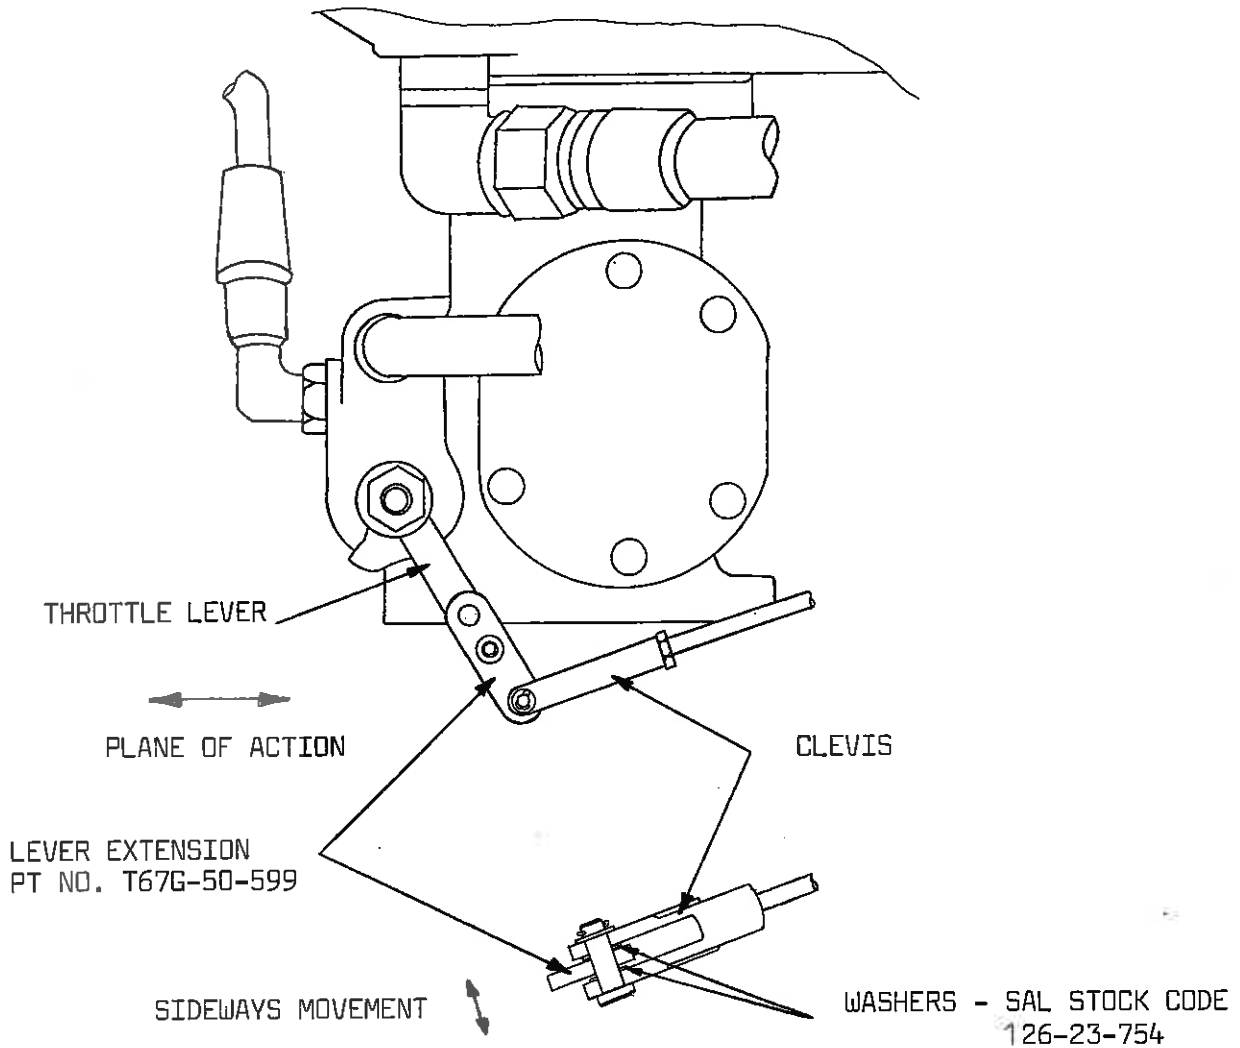

FIG 1
2. Measure the play in the throttle extension lever and mixture extension lever clevis joints, in the plane of action, ref Fig. 1. If the maximum play is up to 0.48mm, (.019 in) then no further action need be taken.
3. Inspect lever extensions and washers in the area of the clevis joint for excessive wear in the sideways direction, ref. Fig. 1. Lever extension thickness in this area must be 2.5mm (.098 in) or greater. If less than 2.5mm (.098 in) replace extension T67G-50-599.